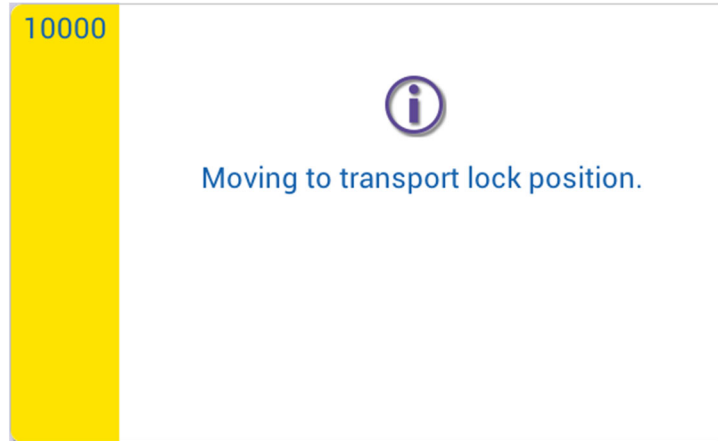

Figure 8
- The message below (**Figure 8**) appears briefly while the instrument prepares for lock.